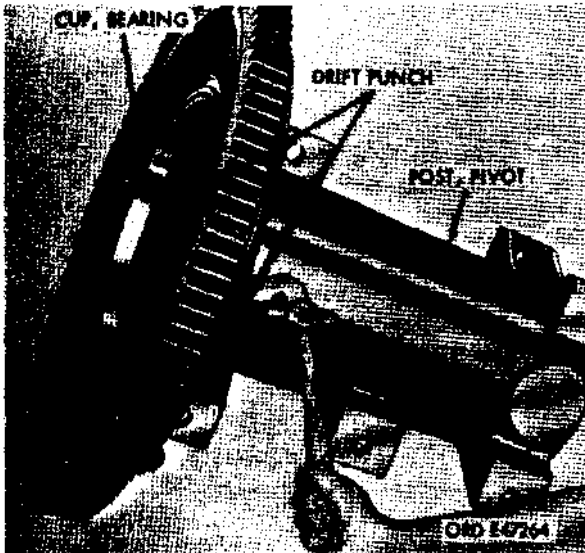

Figure 476. Removing bearing cup from base of pivot post
- (e) It is unnecessary to remove bearing cup in base of pivot post unless inspection warrants replacement. If inspection reveals replacement is needed, remove two lubricating fittings on base of of pivot post. The tapped holes for fittings are in line with the bearing cup. Insert a drift punch (fig. 476) in each hole and tap alternately until cup is removed.